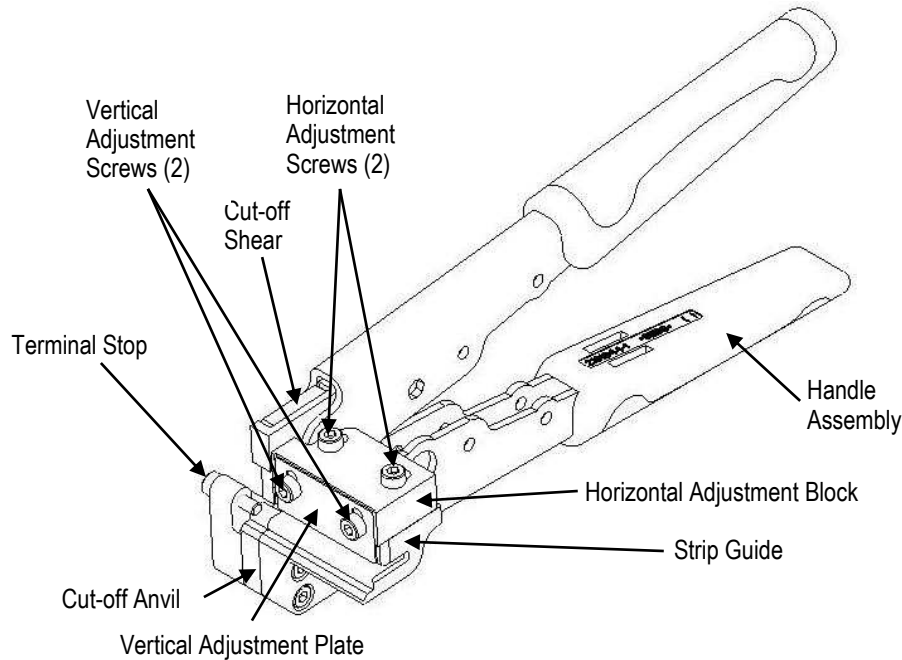

Figure 1
- ♦ The tool is comprised of a Handle Assembly, Cut-off Anvil, Cut-off Shear, Strip Guide, Horizontal Adjustment Block, Vertical Adjustment Plate, and Terminal Stop (reference Figure 1).